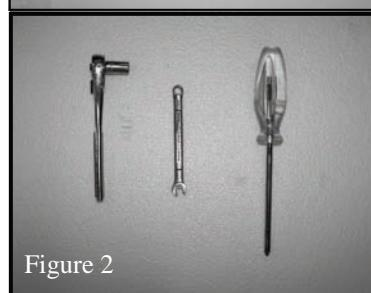

Figure 2
2. Collect the proper tools needed for installing your blower. You will need a Phillips head screw driver, a 5/16" wrench or socket, and an 11/32" wrench. (figure 2)